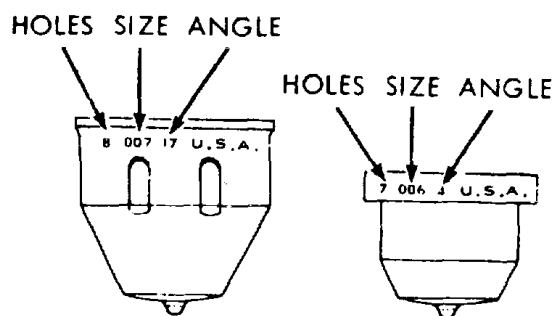

Figure 3-90. Markings on injector cups.
(3) Install proper cup on injector body finger tight (fig. 3-90). Back cup up one half turn.
(4) Immerse injector plunger in clean injector test oil and install in body without spring and place injector in ST-569 with correct spacer to align plunger in body. Tighten cup to specified torque with cup wrench listed in table 2-2.